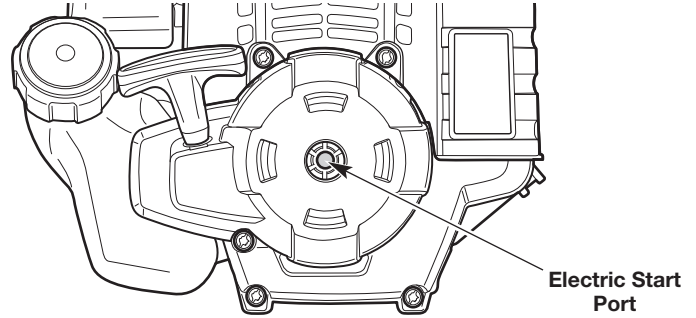

Fig. 18
3. Insert the electric start accessory into the electric start port (Fig. 18).